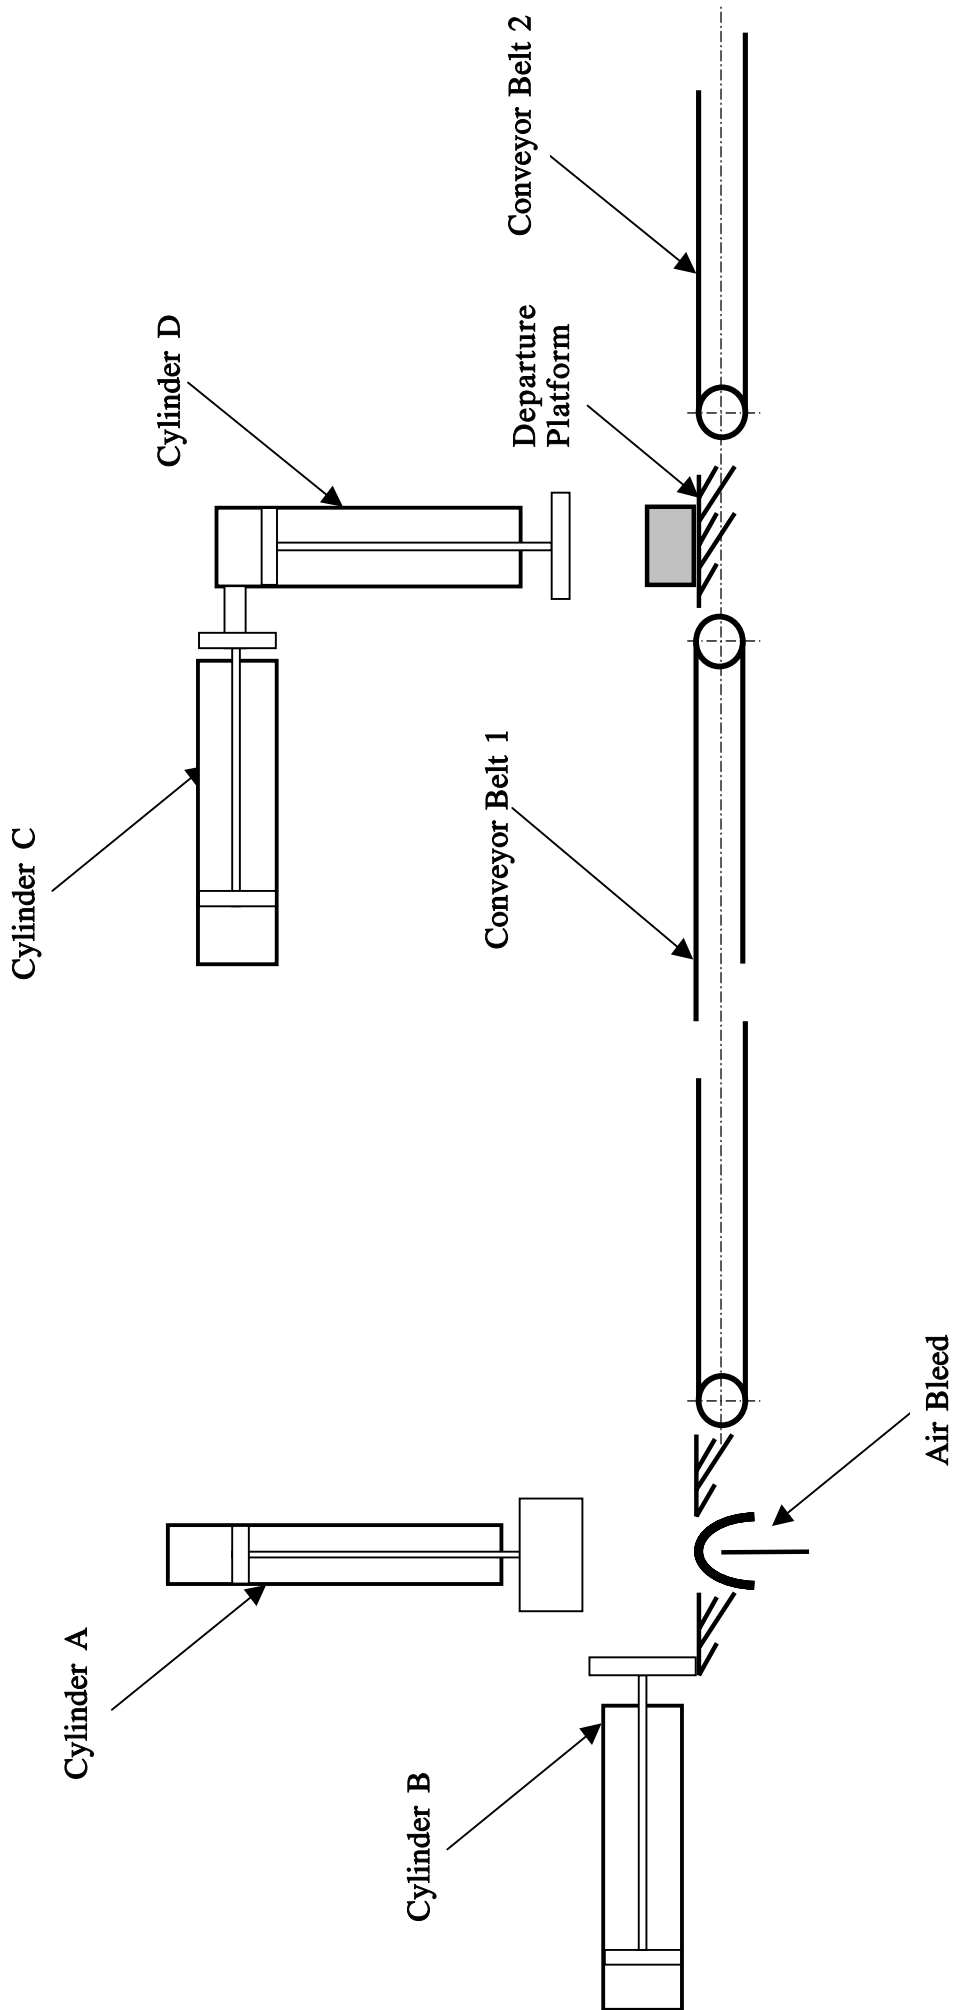

Fig. 5(a)
5 Fig. 5(a) shows parts of a pneumatic based prototype box printing station.
- (b) A box travels along to a further manufacturing stage which utilises the incomplete circuit shown in **Fig. 5(b)**. The circuit when complete is expected to perform the following operation:
With regard to **Fig. 5(a)**.